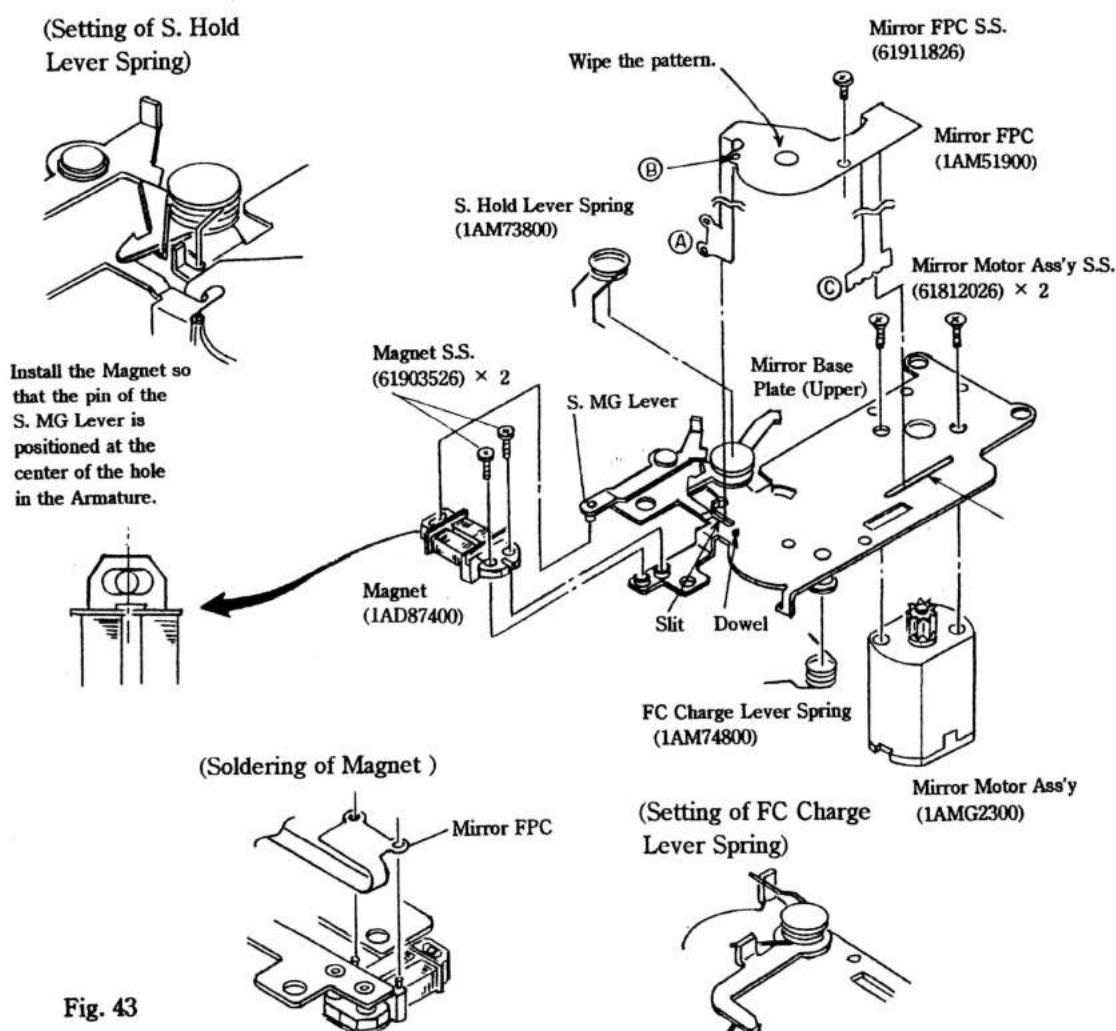

Fig. 43
- Bend the **A** portion of the Mirror FPC as shown in Fig. 43 and solder it to the terminals of the Magnet.
- 12) Wipe the contact pattern on the Mirror FPC with lens cleaning paper with ether alcohol. (See Fig. 43)
- 13) Make certain that the contacts of the Mirror Cam (2) Ass'y are free from fatigue or deformation.